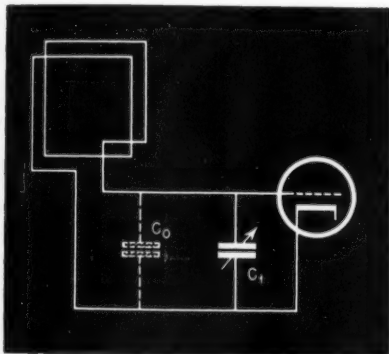

Fig 4. High impedance loop circuit
These factors alone are not all that need be considered in the design of a high-impedance loop. The large number of turns required increases the distributed capacity of the winding which in turn decreases the Q of the loop. A high distributed capacitance plus high-capacity connecting leads also limits the tuneable frequency range of the circuit. The frequency range is determined by the percent capacity change in the circuit. This is shown in Fig. 4 and equation (2) where C_0 = circuit capacity (including distributed